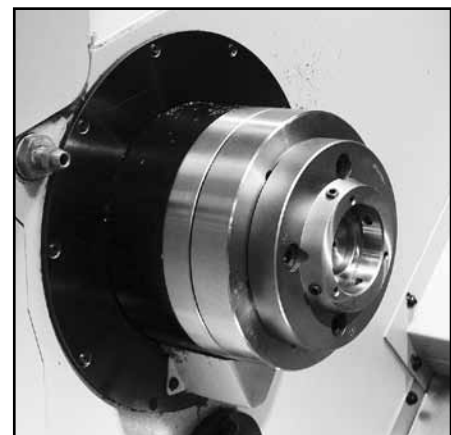

Figure 6 – Spindle Collar
4. Mount the **Spindle Collar** to the spindle with the four mounting bolts. (Figure 6) Finish tightening the bolts in a crisscross pattern using a torque wrench.